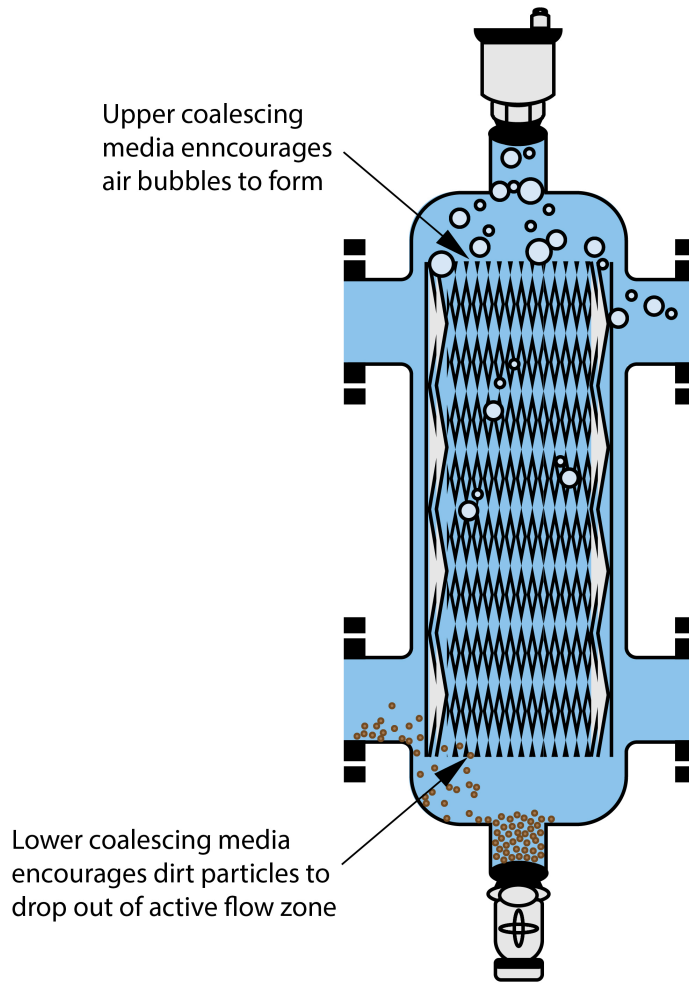

Figure 34 Combined air and dirt separator. (modified from Caleffi, idronics™, 2014).
On commercial systems, pressure gauges may be installed to monitor the pressure drop across a basket strainer (Figure 34) and determine when cleaning is needed.
- **Figure 34** Combined air and dirt separator is modified from original [Figure 6-11] by Caleffi Hydronic Solutions (2014, p. 36) in *idronics*TM with permission.